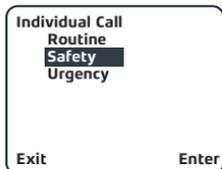

Figure 18
4. Select the call type from Routine, Safety or Urgency (fig 18).